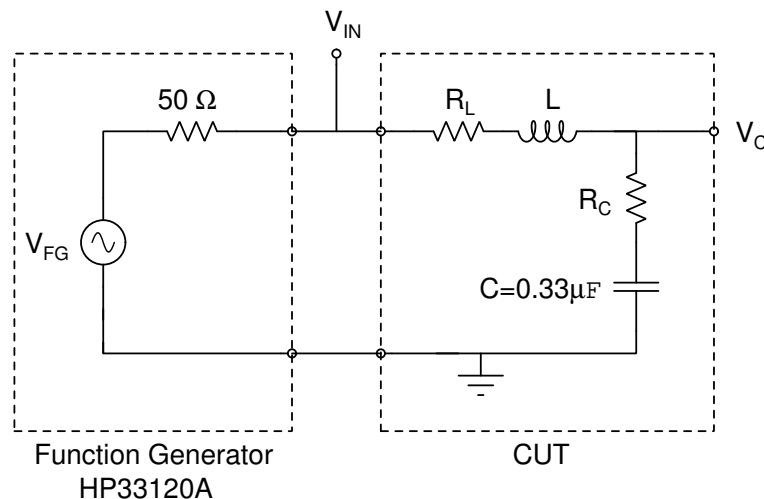

Figure 1: RLC circuit analyzed and measured in Lab #6.
3. Consider the circuit in **Figure 1** with  $R_C = R_L = 0\ \Omega$  and  $L = 1\ \text{mH}$ .
3. Build the RLC circuit shown in Figure 1.
2. Use NGSpice to simulate the RLC circuit shown in Figure 1 using the measured values of the capacitor and inductor including the equivalent series resistances  $R_C$  and  $R_L$ .